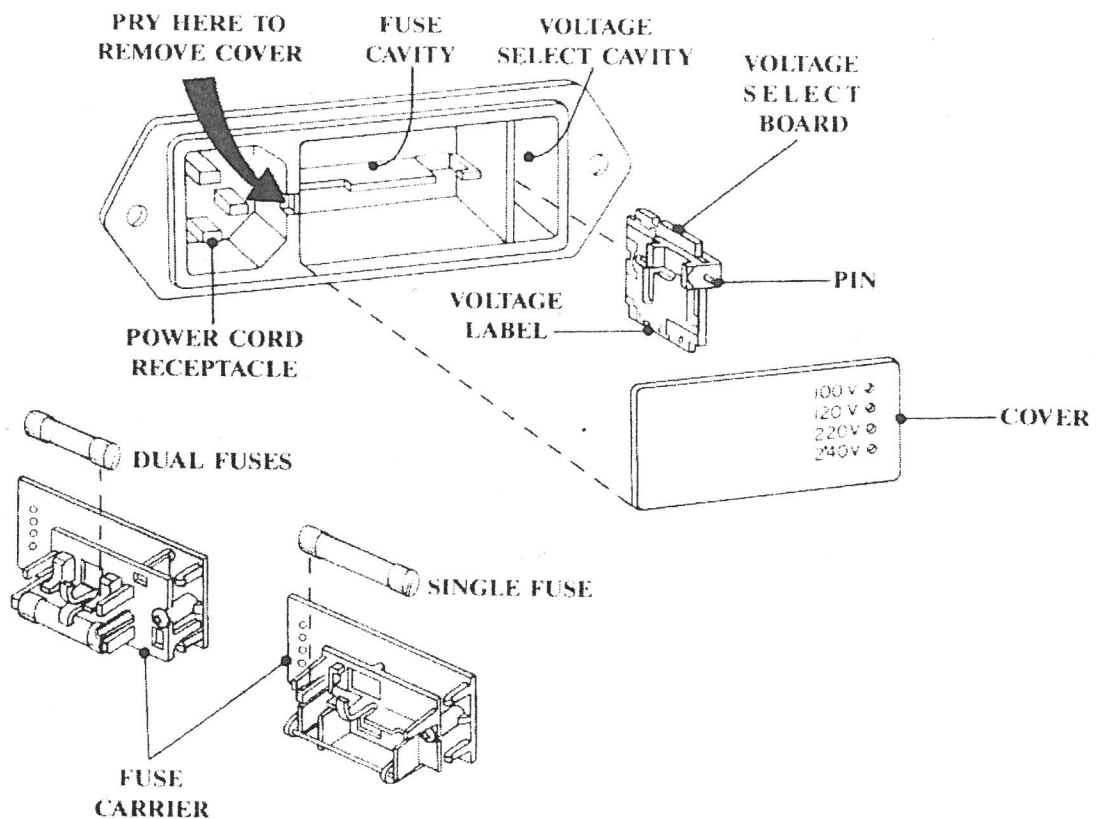

FIGURE 3-4. POWER ENTRY MODULE
2. Unplug the power cord from the ac wall outlet and from the power cord receptacle on the power entry module. See Figure 3-4.